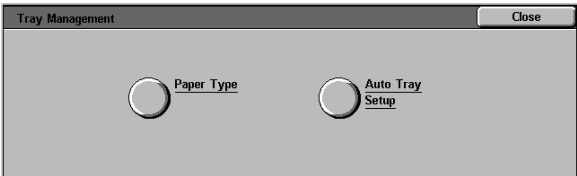

Figure 9: Tray Management screen
- 1 On the Tools screen, touch the **Tray Management** button to display the Tray Management screen, as illustrated in Figure 9.